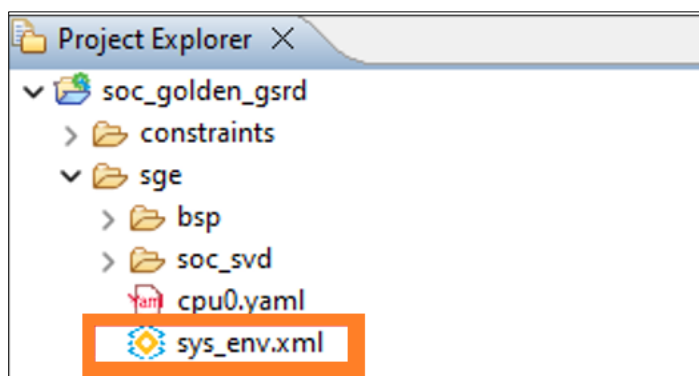

Figure 7.10. sys_env.xml File Created
- Notice that after generating the design, the tool creates the `sys_env.xml` file in the project directory as shown in Figure 7.10. The `sys_env.xml` can be used to generate C/C++ project for Hello World (optional), bootloader and FreeRTOS application projects in the next sections.